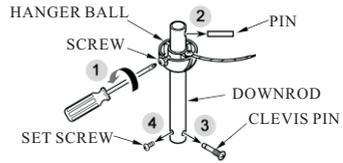

FIG. 1
1. Loosen the screw from the hanger ball and remove the pin, set screw and clevis pin from down rod. (see fig 1)